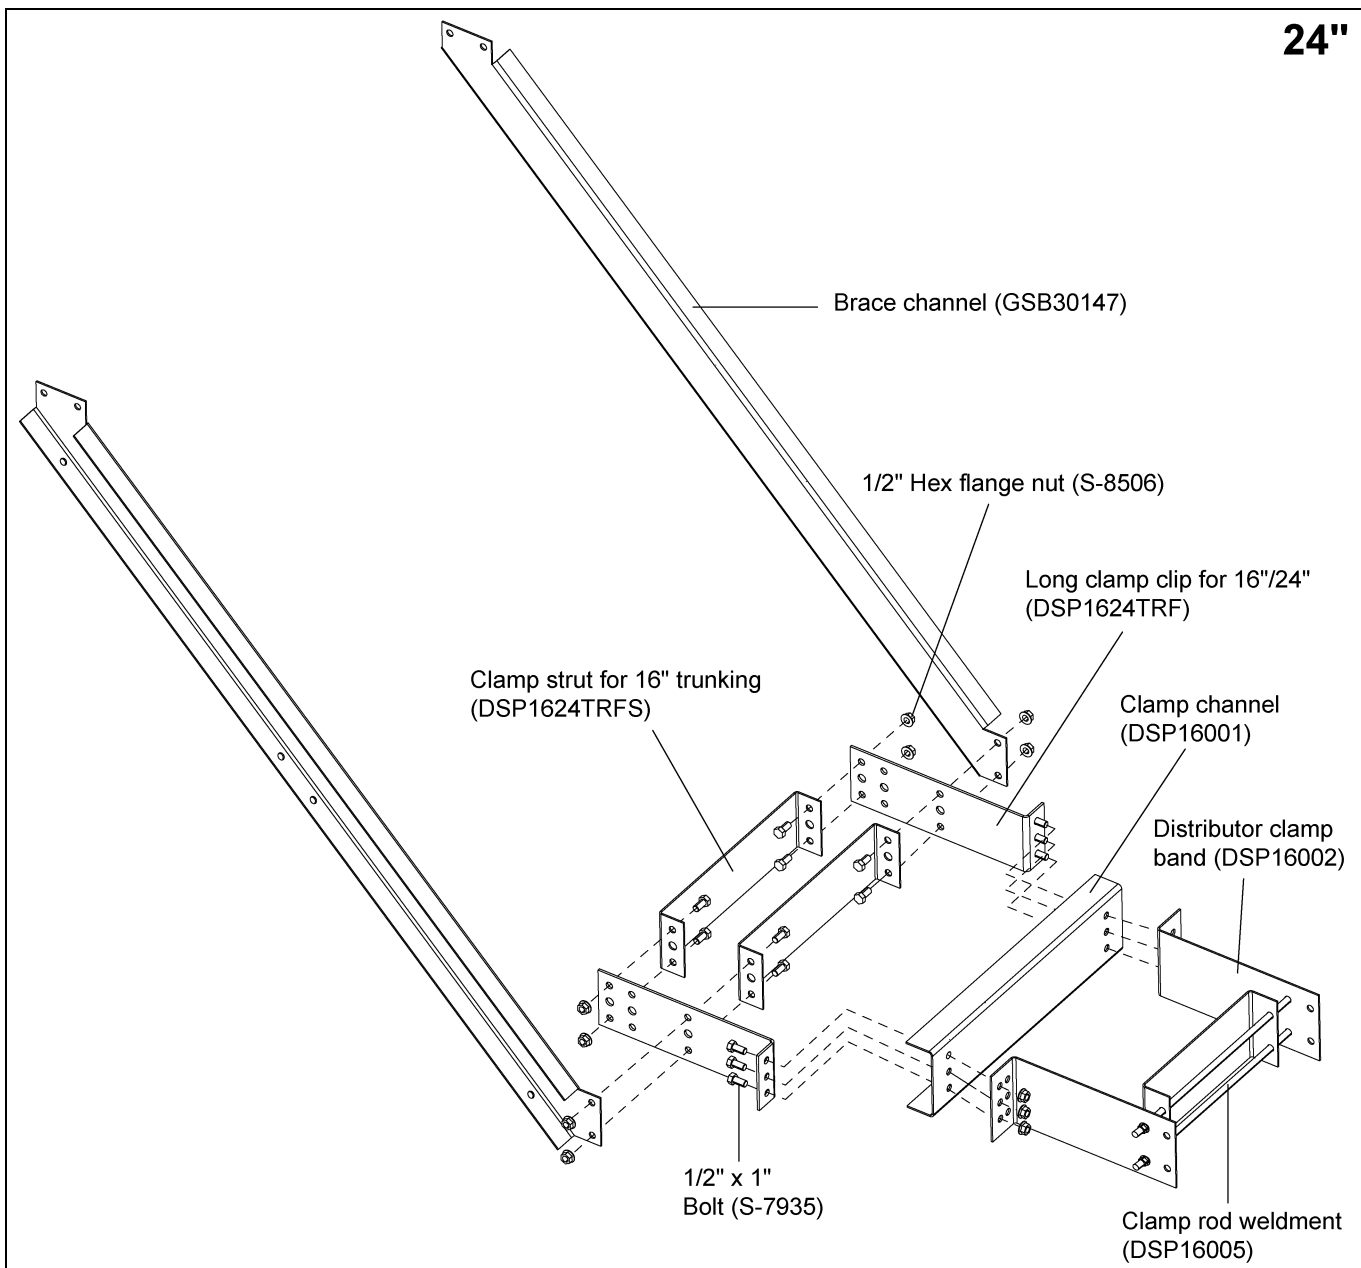

Figure 12D
1. Slide rods of clamp rod weldment into inside set of holes of clamp bands for 16" assembly. Fasten together using four (4) 1/2" hex flange nuts.
2. Orient the brace channels so the bends face outwards and line up the brace channel holes with the holes located near the middle of the 16"-24" long clamp clips. Line up the clamp strut with the same set of holes as the brace channel and 16"-24" long clamp clip. Fasten all five (5) together using four (4) 1/2" x 1" bolt and nuts. Attach remaining clamp strut to the end of the 16"-24" clamp clip. Tighten only finger tight. *(See Figure 12D.)*
3. Assemble the clamp rod weldment, clamp channel and brace channel assembly at same time around the trunking. Place clamp rod weldment assembly around the trunking leg and line up holes on 16"-24" long clips and clamp channel with the **outside set of holes** on the clamp rod weldment. Fasten all three (3) together using six (6) 1/2" x 1" bolts and nuts.